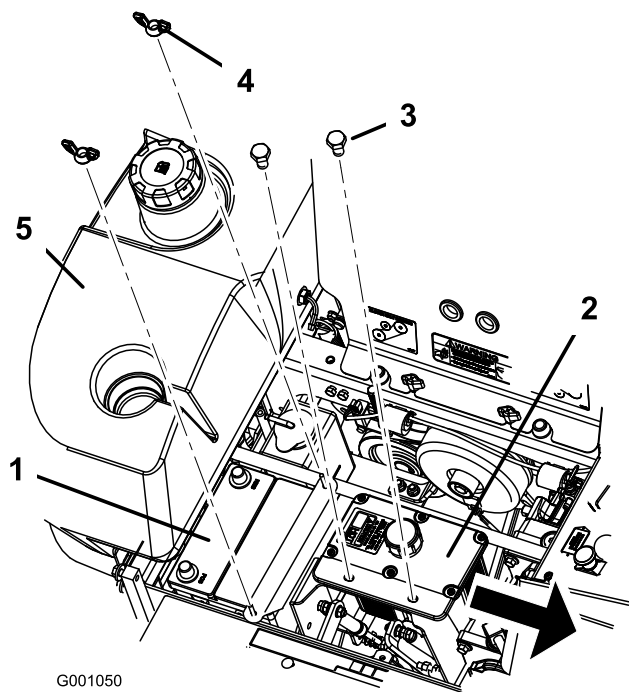

Figure 51
6. Remove both wing nuts (1/4 inch) securing the battery clamp (Figure 51).
7. Remove the two bolts holding the hydraulic tank in place (Figure 51).
6. Secure battery with J-bolts, hold down clamp and 2 washers (1/4 inch), and 2 wing nuts (1/4 inch) (Figure 51).